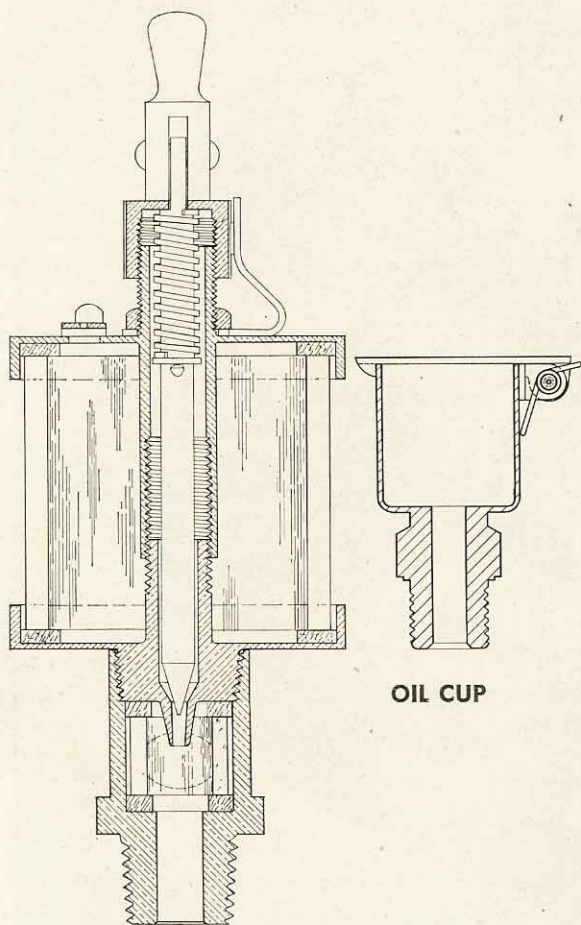

FIGURE 2-13
22. HAND OILING: Some parts of the engine have recesses which are packed with waste to take oil. The bilge-pump drive shown in Figure 2-13 is an illustration. Such recesses should be oiled once every four hours of operation. The waste should be removed once a